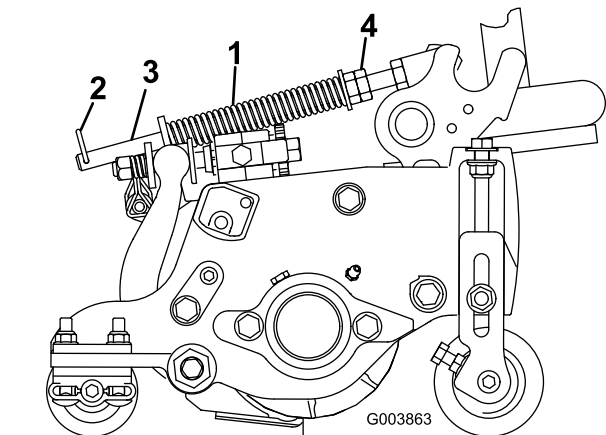

Figure 14
The turf compensation spring (Figure 14) transfers weight from the front to the rear roller. (This helps to reduce a wave pattern in the turf, also known as marcelling or bobbing.)
1. Make sure the hairpin cotter is installed in the rear hole in the spring rod (Figure 14).
2. Tighten the hex nuts on the front end of the spring rod until the compressed length of the spring is 5 inches (12.7 cm) on Reelmaster 5210 & 5410, 5 inch cutting units or 6.25 inches (15.9 cm) on Reelmaster 5510 & 5610, 7 inch cutting units (Figure 14).